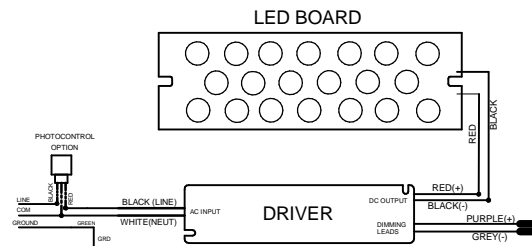
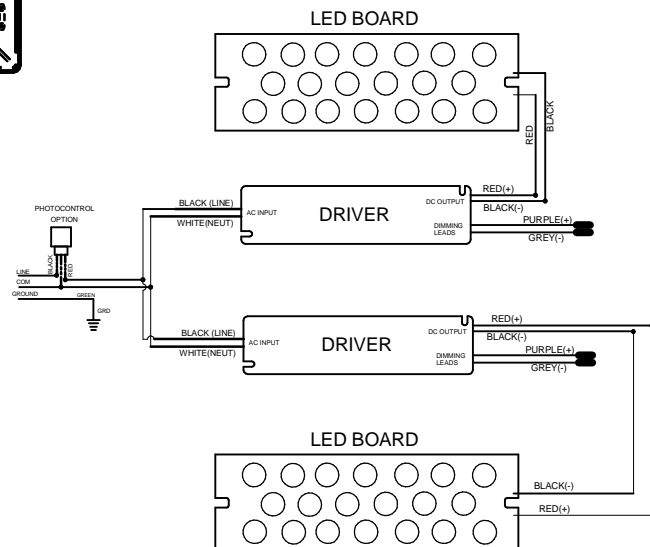

Fig 6: Wiring Diagram for RFL4 Flood
Fig 7: Wiring Diagram for RFL5 Flood
- Connect the Photocontrol as shown in Fig.6 for RFL4 or Fig 7 for RFL5.